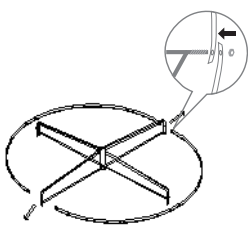
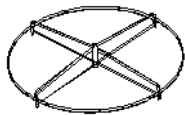

Figure 1
Figure 2
1. Pull out the plastic film from the batter cover to energize the remote. (Fig.1)
- Step 1: Open the base frame, and insert guide post of the base frame into the hole on the outer ring, and fix the base with screws; (Figure 1 and Figure 2)